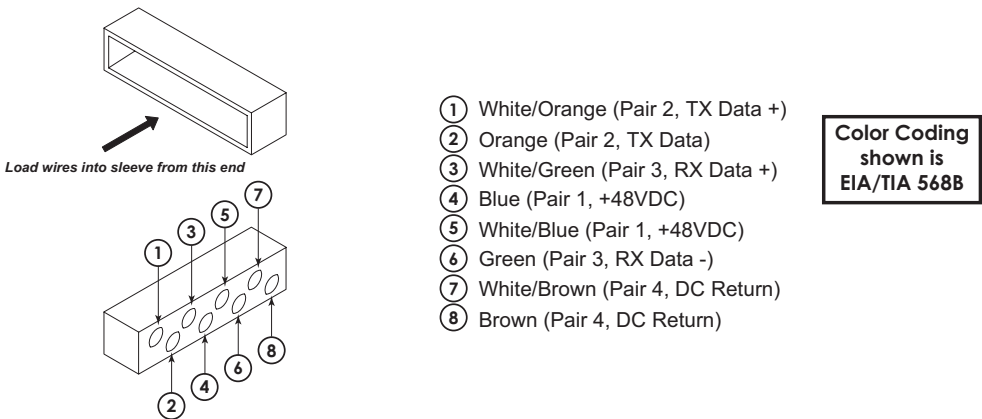
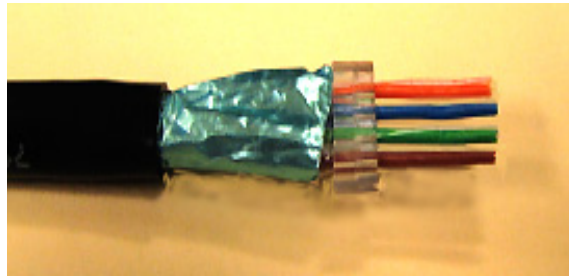

Figure A-6 Inserting wires in loading sleeve
Figure A-7 Cable ready for crimping
Step 3 Insert each wire through the loading sleeve in the precise order shown in Figure A-6. Ensure that the foil is closed around the wires and that the loading sleeve is pushed as far back on the cable as possible so that it is close to the foil. Be sure to insert the wires into the open end of the loading sleeve. Trim the wires so that they extend from the foil by 0.4 inches (1 cm). Figure Figure A-7 shows the completed assembly before crimping.
- 1) The wires are in the correct order. See Figure A-6